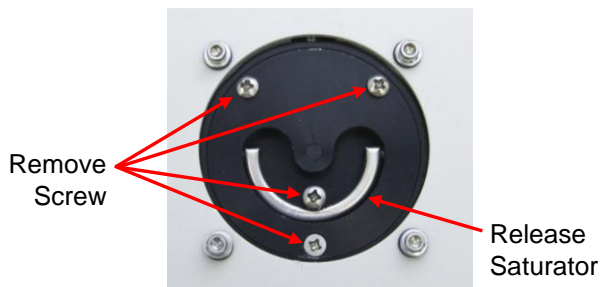

Figure 8-5
7. Remove the three screws which hold the base in the saturator block as shown in Figure 8-5. Release the handle in the base by loosening the thumbscrew.
14. Reinsert the wick and base and secure to CPC using the three screws indicated in Figure 8-5. In case the wick does not insert easily, follow these tips: